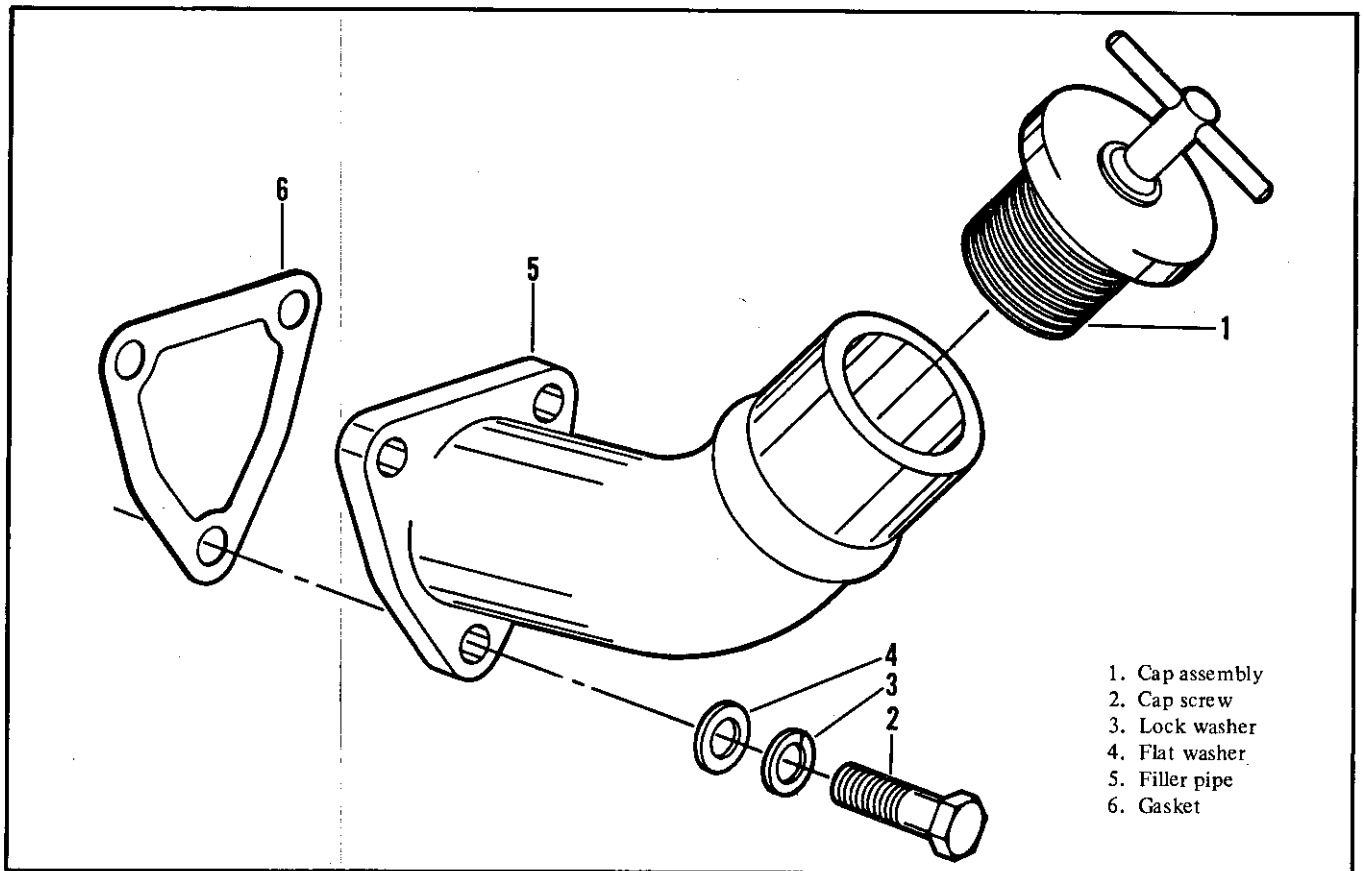

Figure 5-4. Engine oil filler assembly
5-19. **ENGINE OIL FILLER ASSEMBLY** (Figure 5-4). As necessary for repair disassemble engine oil filler in following sequence.
a. Unscrew and remove cap assembly (1, figure 5-4).
b. Remove cap screws (2), lock washers (3), and flat washers (4). Remove pipe (5) from engine. Remove gasket (6).